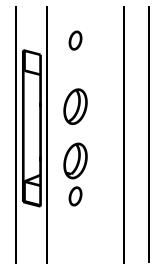

Figure 3
- ①. Please verify and drill out the door according to the installation diagram and figure 3.